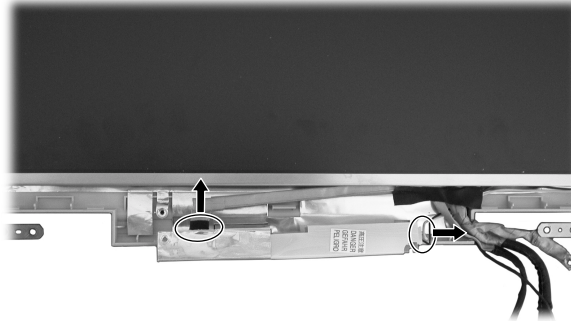

Figure 2-22 Remove the inverter board
5. To remove the inverter board on the lower part of the LCD housing , disconnect two cables. (Figure 2-22)